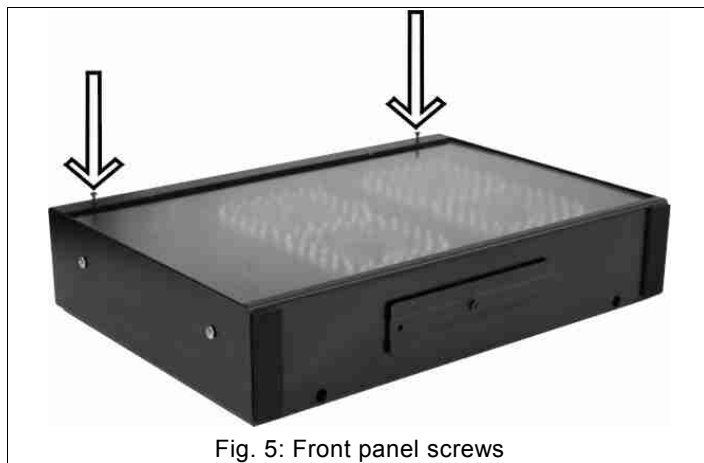
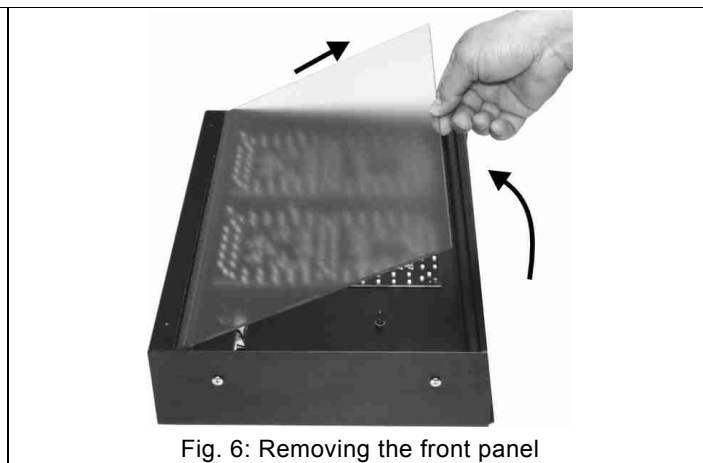

Fig. 5: Front panel screws
Fig. 6: Removing the front panel
2. Unscrew the 2 screws showed on Fig. 5 and remove the transparent front panel (Fig. 6).